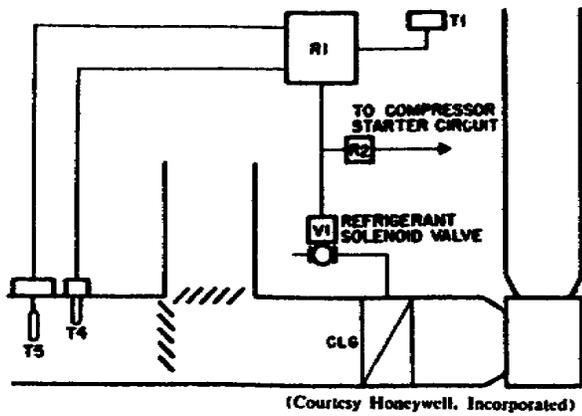

Figure 134. Refrigerant solenoid valve control system.
6. **Refrigerant Solenoid Valve Control.** The electron control panel R1 in figure 134 will control space temperature by coordinating signals from the space thermostat T1 and the outdoor thermostat T4 to operate the refrigerant solenoid valve V1. T4 will raise the space temperature as the outdoor temperature rises to a predetermined schedule. T3 will remove T4 from the system when the outdoor temperature falls below the setting of T3 to prevent subcooling of the space at low outdoor temperature.